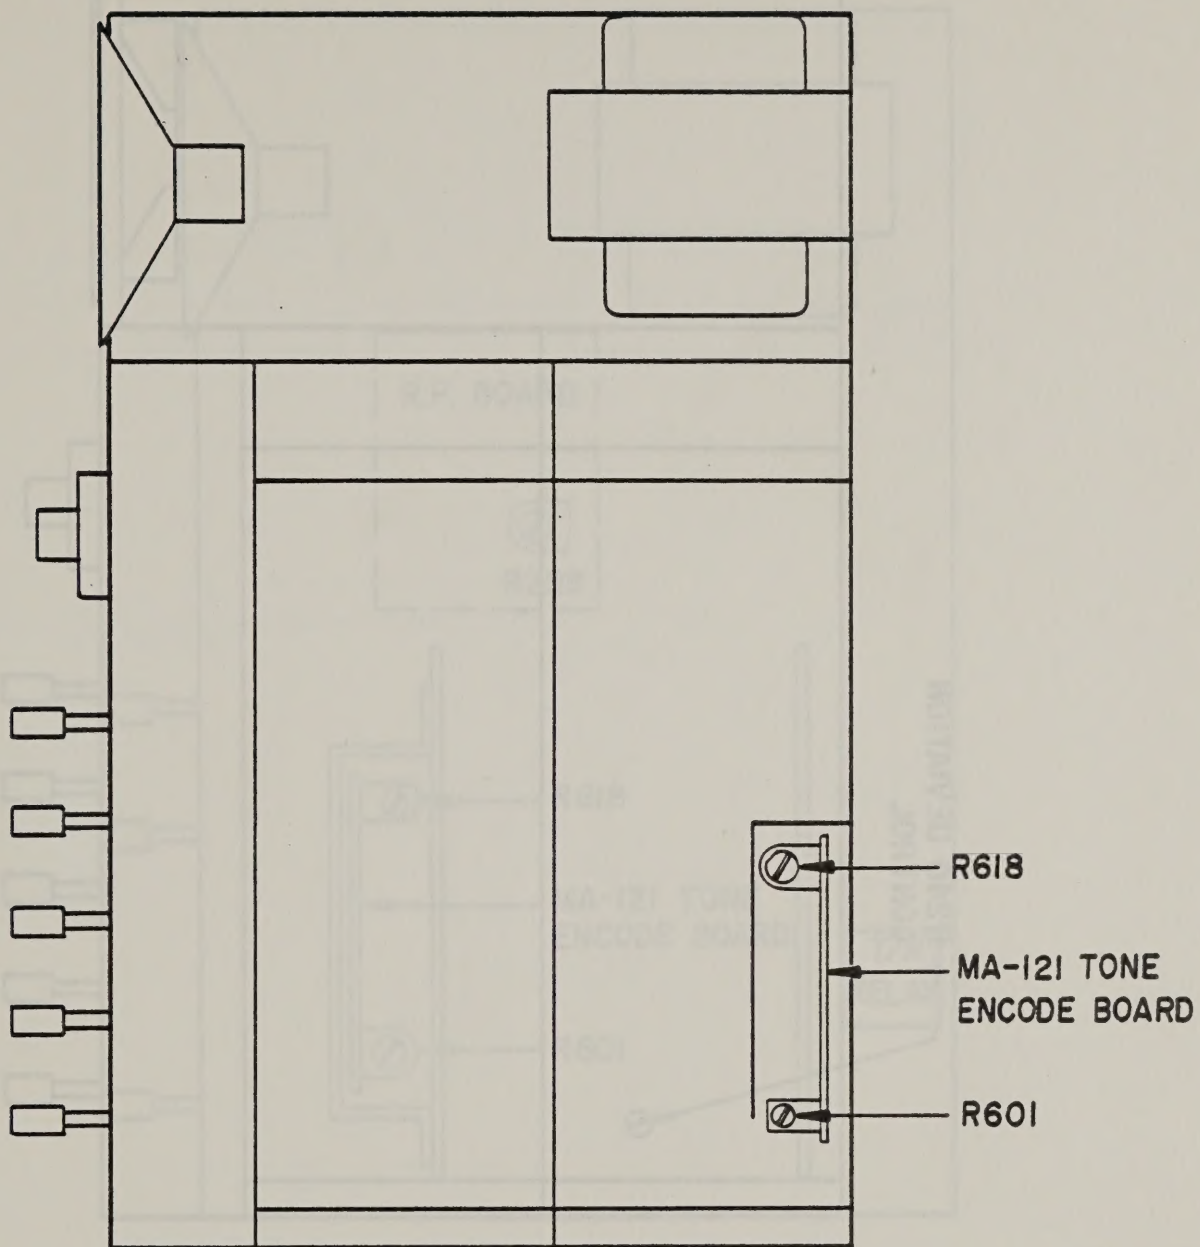

FIG 3
2. The shield area that accepts the CTCSS module is located in the transmitter portion, toward the right rear of the radio. The receptacle for the tone board is located in this shielded area. Refer to Figure 3.